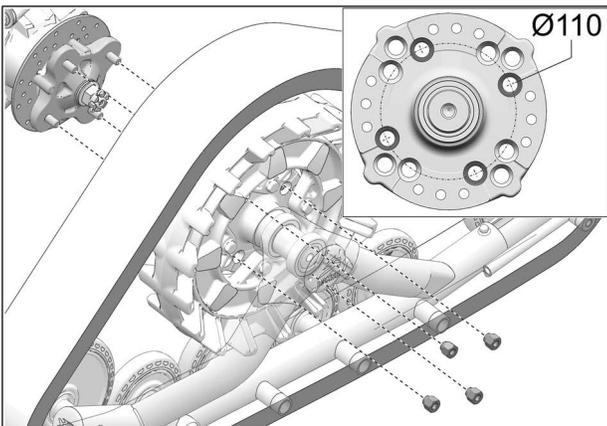

Fig. 12
10. Secure undercarriage to rear hub using vehicle's own lug nuts. Use bolt circle $\varnothing 110$ mm. See Fig. 12